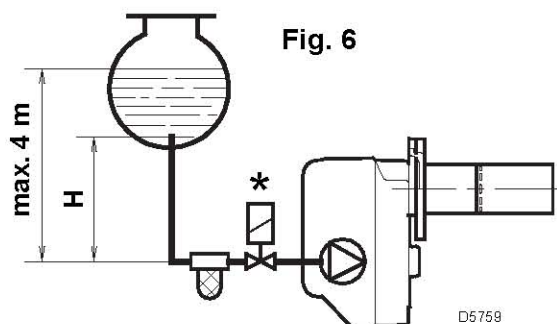
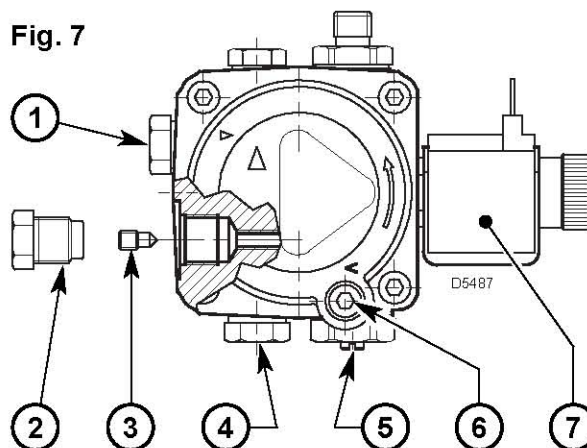

Fig. 6
Fig. 7
- The pump is designed to allow working with two pipes. In order to obtain one pipe working it is necessary to unscrew the return plug (2), remove the by-pass screw (3) and then screw again the plug (2). (See fig. 7).
On the system in fig. 6 it is sufficient to loosen the suction gauge connection (6, fig. 7) and wait until oil flows out.
To change it act on pump pressure adjust screw (5, fig. 7, page 4).